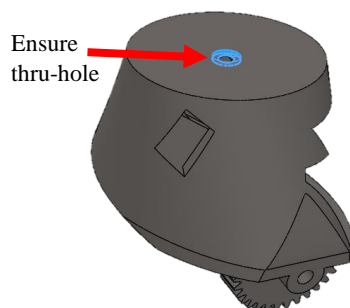

Figure 11a: View 1 – Thru-hole
1. Ensure the hole on the flat face of the proximal piece goes all the way through to the interior motor cavity (sand if needed), as the tendon string will pass through this hole. The proper hole pathway can be seen in the SolidWorks model provided (**Figure 11a**).
2. Pass the tendon through the **D1-PPhal-PPart-PalmGear** through-hole as seen in **Figure 11a** (should be sticking through on both sides).